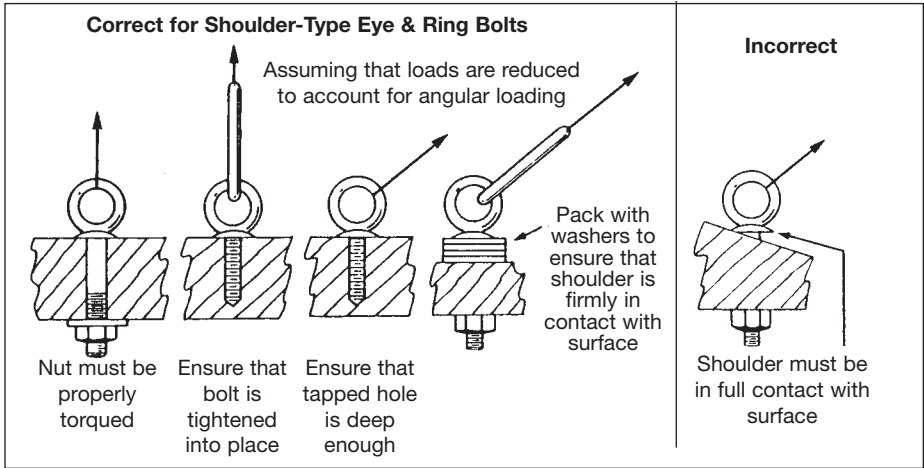

Figure 26
- Make sure that bolts are at right angles to hole, make contact with working surface, and have nuts properly torqued (Figure 26).
- Pack bolts with washers when necessary to ensure firm, uniform contact with working surface (Figure 26).
- Make sure that tapped holes for screw bolts are deep enough for uniform grip (Figure 26).